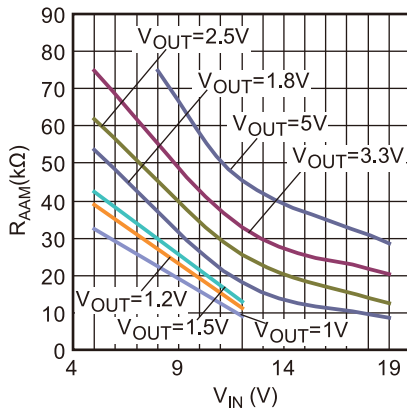

Figure 7: AAM Resistor Selection
9) The recommended R_{AAM} value is based on 12V input voltage, please refer to Figure 7 for full input and output voltage range's R_{AAM} value.
Please consult the Figure 7 below when setting the AAM resistor.